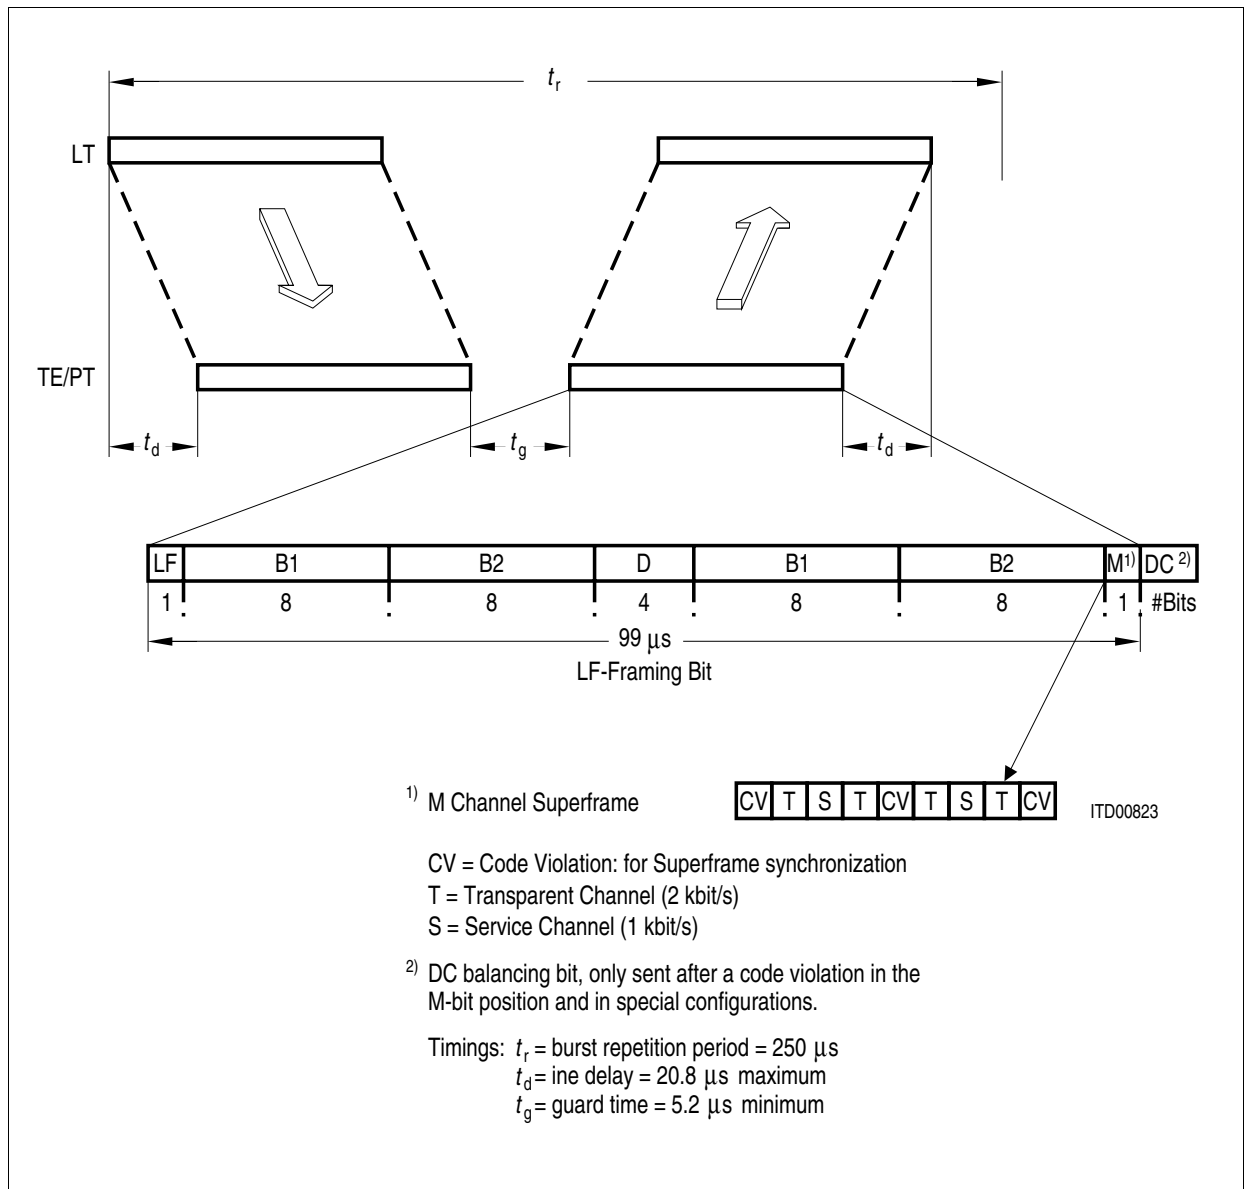

Figure 22 U_PN Interface Frame Structure
The frame structure of the data transfer between the exchange (PBX, LT) and the terminal (TE) is depicted in Figure 22.
- A frame transmitted by the exchange (PBX) is received by the terminal (TE) after a given propagation delay t_d .